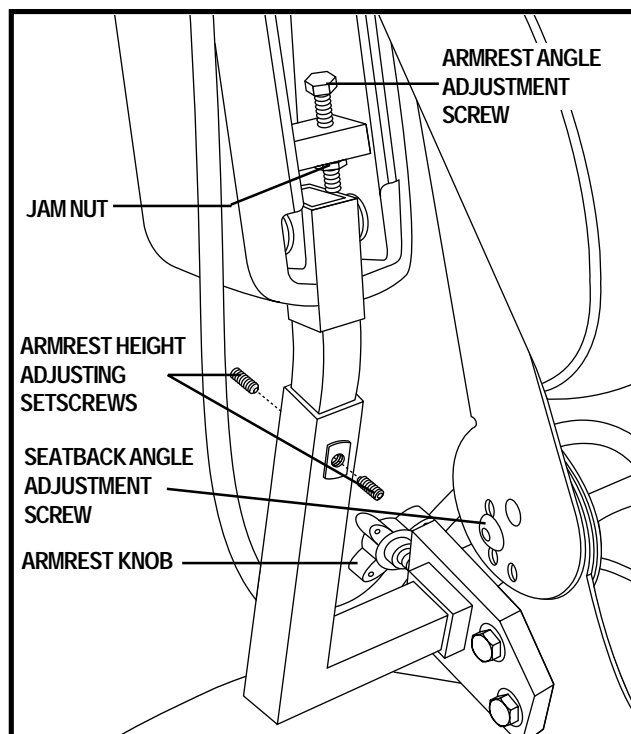

Figure 23. Seatback Angle Adjustment
1. Remove the adjustment screw from each seat hinge. See figure 23.
1. Loosen the two setscrews located on the armrest receiver. See figure 23.
1. Locate the two armrest knobs on each side of the armrest receiver bracket. See figure 23.
2. Loosen the jam nut. See figure 23.
2. Loosen the setscrew on the controller bracket. See figure 23.